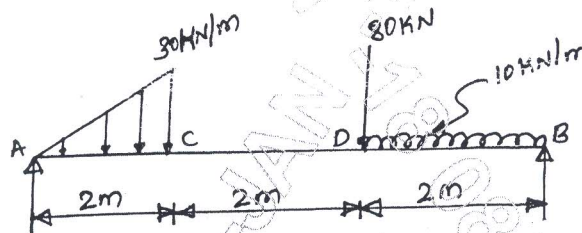

Fig.Q6
- 6 A simply supported beam AB of span 6m is loaded as shown in Fig.Q6. Draw SFD and BMD.